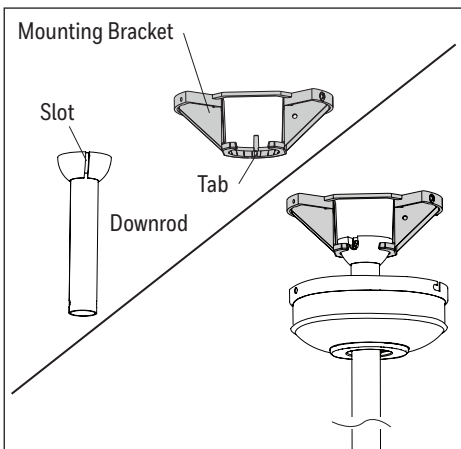

Figure 3.4
4. Install the ball end of the downrod into the opening of the mounting bracket. **WARNING:** Failure to align the slot in the ball with the tap on the mounting bracket may cause the fan to fall, which could result in injury or death (Figure 3.4).